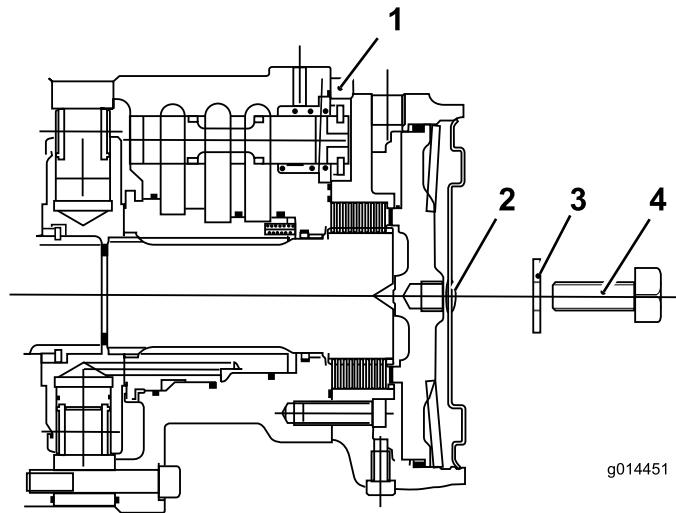

Figure 54
- C. Assemble the hex plug into the motor end plate (Figure 54).